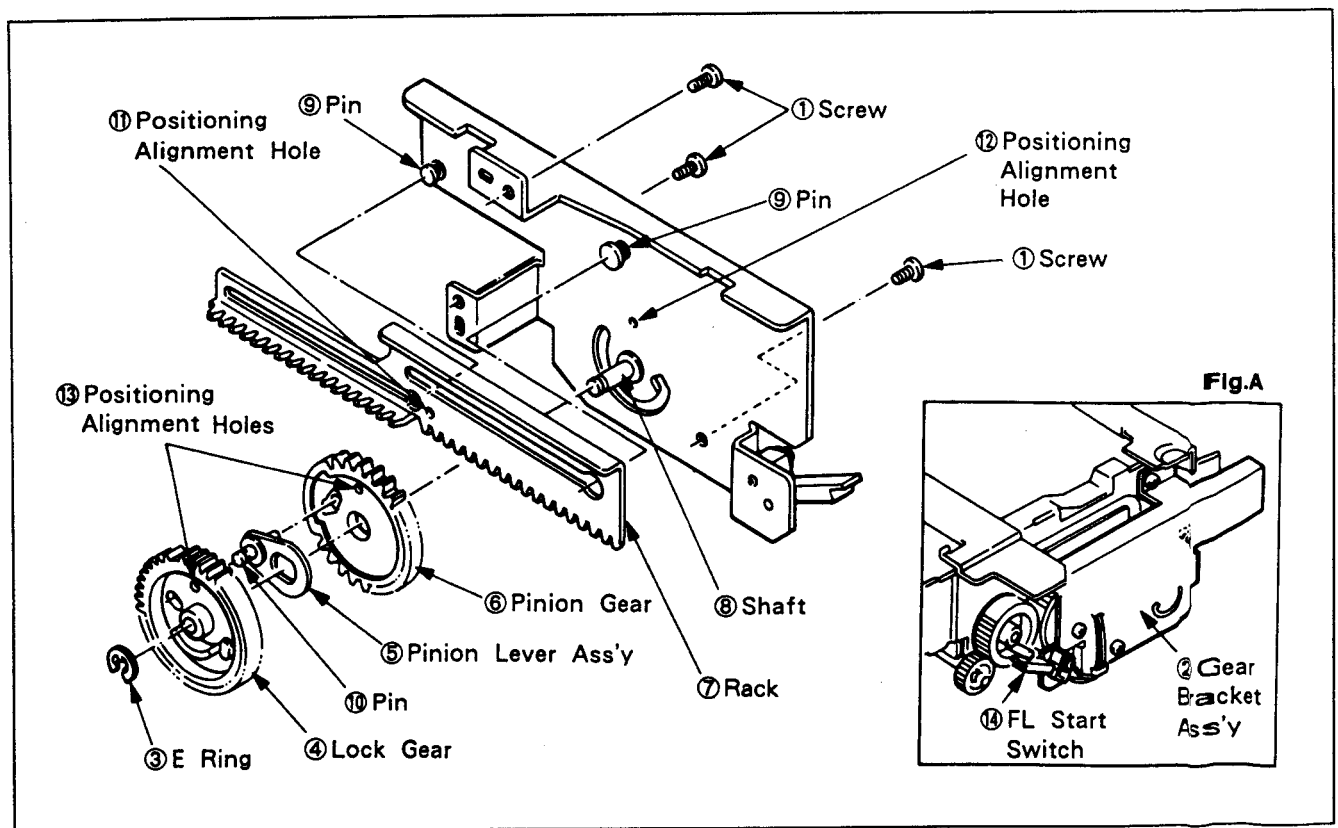

Fig. 4-2-2. Gear Bracket Ass'y
4-2-2. Gear Bracket Ass'y (See Fig. 4-2-2.)
Also align the positioning alignment holes ⑬ of PINION GEAR and LOCK GEAR with the positioning alignment hole ⑫ of GEAR BRACKET by referring to Fig. 4-2-2. After mounting them, check to be sure that FL START SWITCH ⑭ is in the ON state shown in Fig. A.